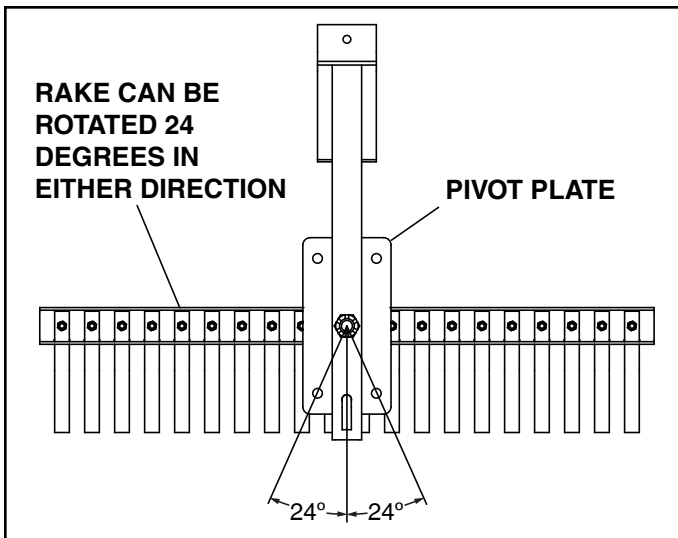

FIGURE 6
5. The rake can be angled 24 degrees in either direction as shown in figure 6. To change the angle: